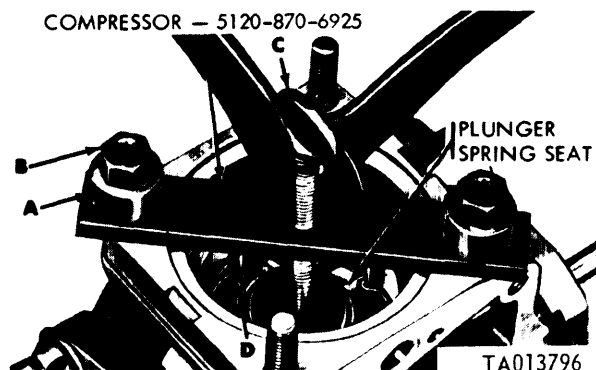

Figure 3-121. Installing tappet spring retaining ring using compressor.
(3) Refer to figure 3-121. Position compressor and secure with two stud sleeves (A) and hydraulic head nuts (B). Turn thumb screw (C) clockwise to compress plunger spring seat. Install spring retaining ring (D) using suitable pliers. Release spring tension by turning thumb screw counterclockwise and remove the compressor.